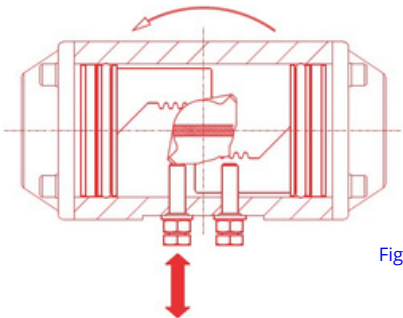

Fig.12
- Actuators with assembly variations "A" (standard) and "B" (see Part 10 - A, B, C, D, ASSEMBLY SCHEMES) are identified by CW rotation on the nameplate: for adjustment in opening, please adjust the LEFT screw, see Fig.12.